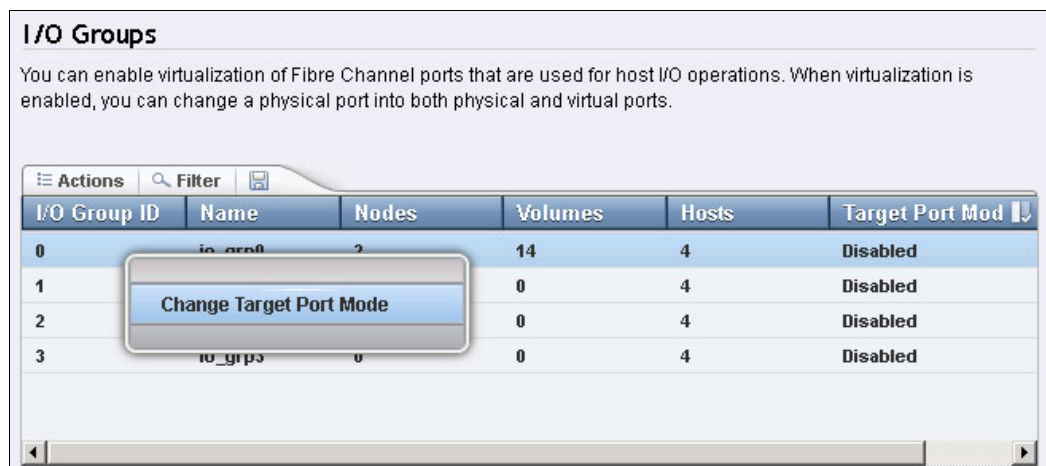

Figure 7-23 Change Target Port Mode
1. From the IBM FlashSystem V9000 GUI, select **Settings** → **System** → **I/O Groups**. Select the I/O Group to be changed and select **Actions** → **Change Target Port Mode** as shown in Figure 7-23.